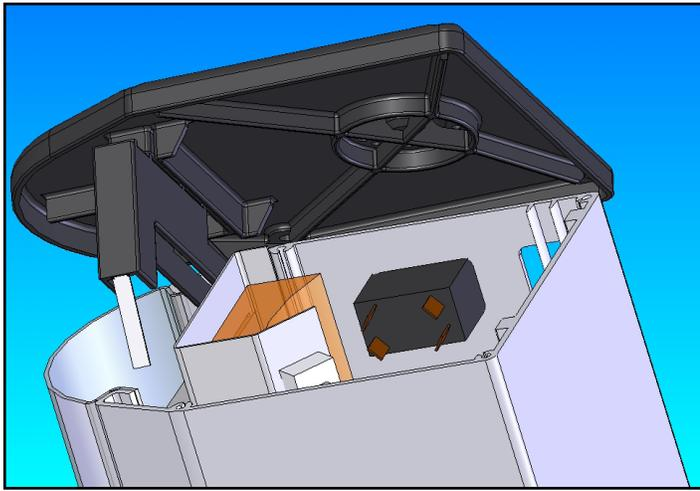

FIGURE 5 -Removing End Cap
A. Disconnect the power to the unit; remove the intake grille by removing the (4) screws on one side of the unit. Pull the top of the end cap outward to release the filter tab to remove end cap. Slide the intake grille out of unit (See Figure 5). It is not recommended to remove the blower assembly from the cabinet. To clean the motor and blower wheels, with the filter and inlet screen removed, blow compressed air in the unit to remove loose dust and debris.